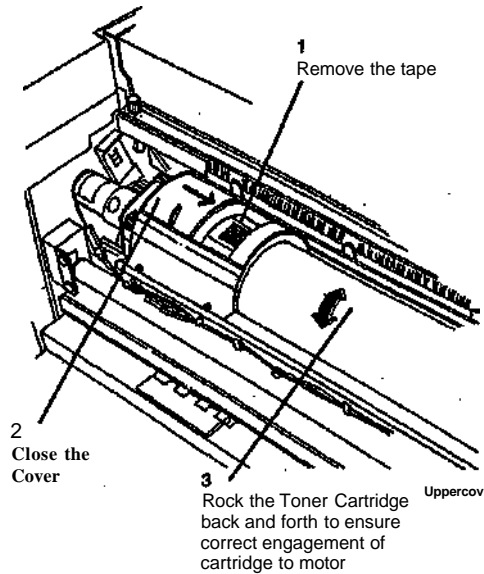

Figure 16. Completing the Toner Cartridge Installation
23. (Figure 16): Complete the Toner Cartridge installation.